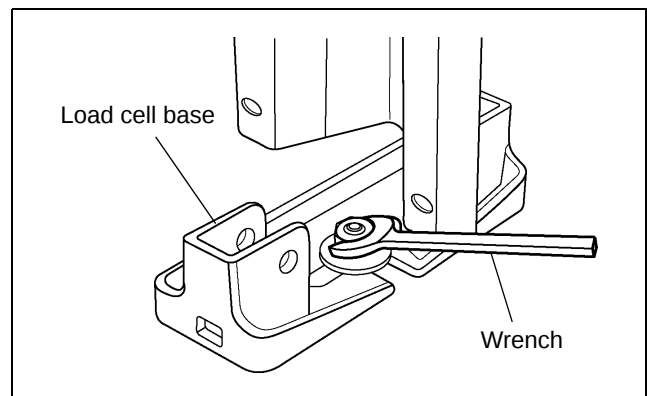

Figure 4H Leave anchor bolt loose until assembly is complete.
3. Replace washer and nut onto anchor bolt. DO NOT tighten fully until assembly is complete. *(See Figure 4H.)*